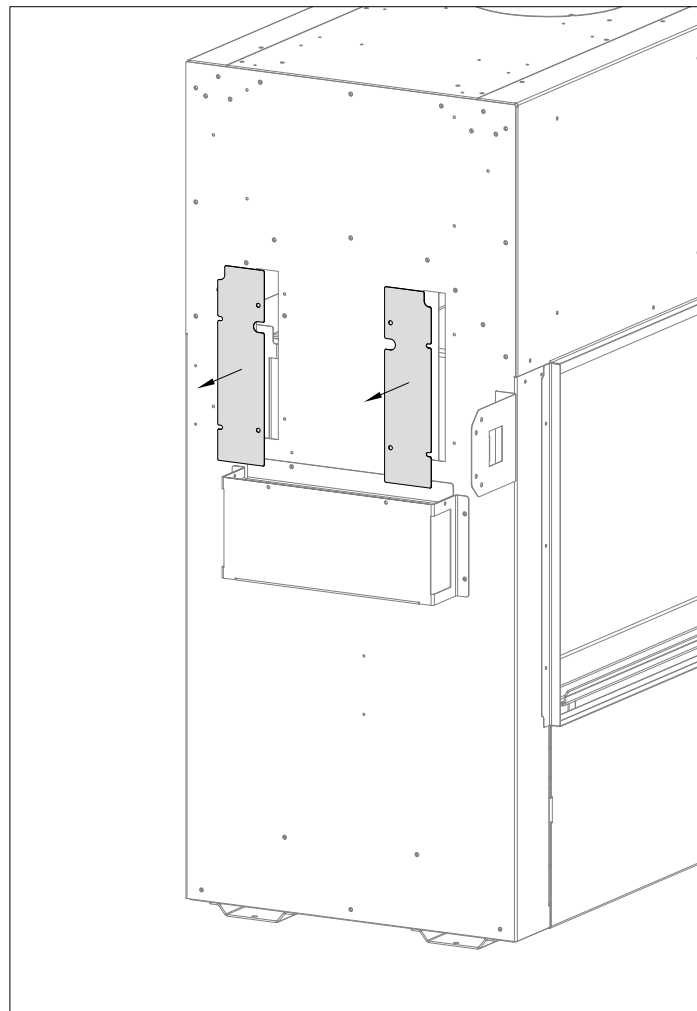

Figure 4.1 - HTK Cover Plate Removal
- Figure 4.1 shows removal of the Heat Transfer Kit cover plates. There are (2) rectangular cover plates located on the side opposite of the exhaust on the outer shell of the appliance. Both cover plates must be removed for either kit. See the #HTK-CWST air chute install instruction sheet for more information.